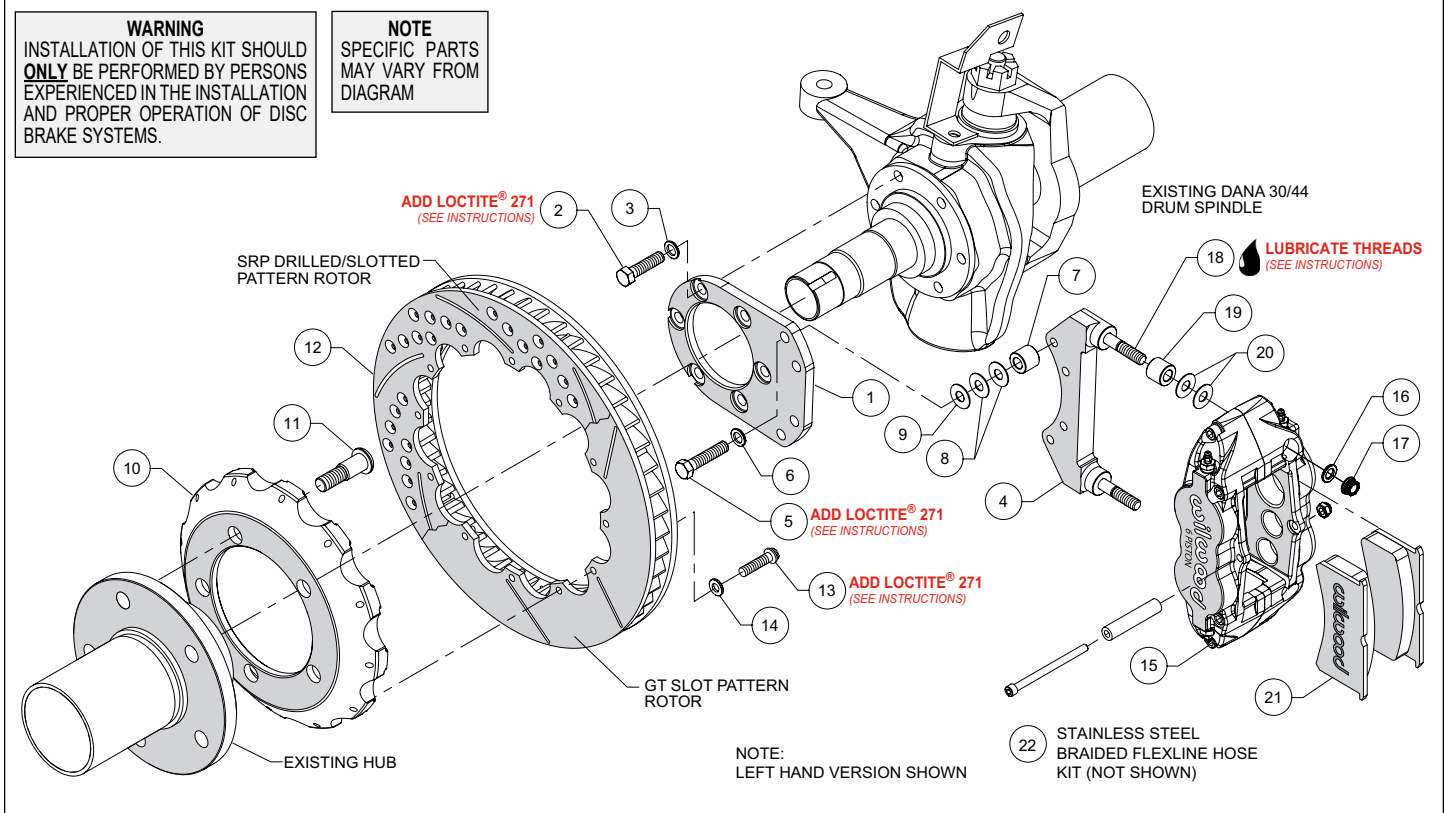

Figure 1. Typical Installation Configuration
NOTE: *Numbers in parenthesis refer to the parts list and Figure 1 on the preceding pages.*
- Orient the flat mount bracket (1) as shown in Figure 1 and Photo 1, and install using bolts (2), and washers (3). Ensure that the counterbored holes in the bracket are facing outboard, Figure 1. Temporarily tighten the mounting bolts. **NOTE:** *The bracket must fit squarely against the mount bosses on the upright.* Inspect for interference from casting irregularities, machining ridges, burrs, etc. Remove bolts one at a time, apply red *Loctite*® 271 to the threads and torque to 40 ft-lb.
- The caliper mount bracket (4) should initially be installed with clean, dry threads on the mounting bolts. Orient the bracket as shown in Figure 1 and Photo 2, and install using mount bolts (5) and washers (6). Initially place two .035" thick shims (8) and spacer (7) on each bolt between the flat and caliper brackets, Figure 1. Temporarily tighten the mounting bolts. Later, after the caliper alignment has been checked, the mount bolts will be secured using red *Loctite*® 271.
- Orient the hat (10) and the OEM hub as shown in Figure 1 and Photo 3. **NOTE:** *The hat must fit flush against the axle hub or excessive rotor run out may result.* Install the wheel studs (11) thru the holes in the hat and press into the existing hub. **NOTE:** *We recommend this procedure be performed by a qualified machinist.*
- Orient the rotor (12) and the hat/hub assembly as shown in Figure 1 and Photo 4. Attach rotor to hat using bolts (13) and washers (14). Apply red *Loctite*® 271 to the bolt threads and torque
•**NOTE:** This kit contains distinct right and left hand calipers that must be mounted in a specific direction, as described below. Lubricate the caliper mounting studs (18) with lightweight oil. Initially place two .035" thick shims (20) and spacer (19) on each stud as shown in Figure 1 and Photo 5. Mount the caliper (15) onto the bracket (4) using lock nuts (17) and washers (16), Figure 1. Temporarily tighten the lock nuts. Ensure that the caliper is mounted so the largest pistons are at the rotor exit end of the caliper, in relation to the direction of the rotor. View the rotor through the top opening of the caliper. The rotor should be centered in the caliper, Photo 6. If not, adjust by adding or subtracting shims (8 and/or 9) between the spindle bracket and caliper bracket. Always use the same amount of shims on each of the four mounting bolts. Once the caliper alignment is correct, remove the bracket to bracket mounting bolts (5) one at a time, apply red *Loctite*® 271 to the threads, and torque to 35 ft-lb.